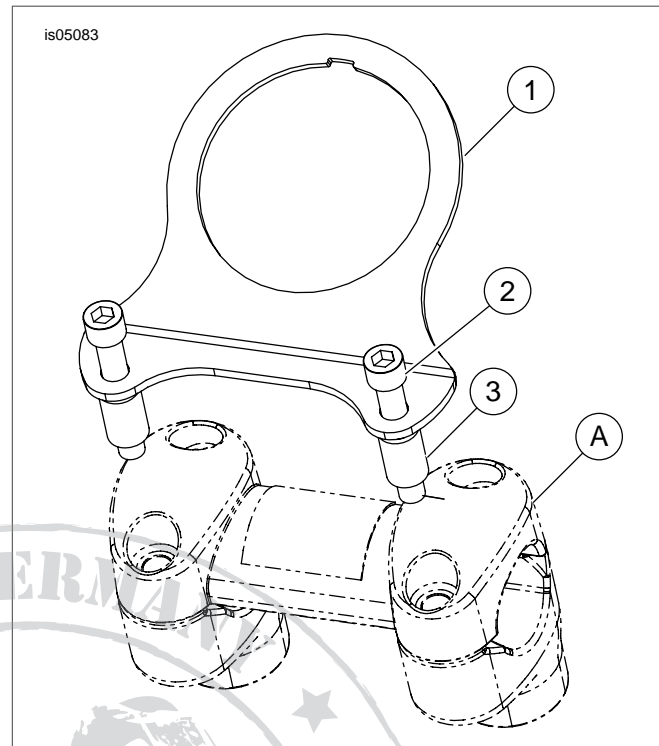

Figure 1. Service Parts: Mini-Tach Bracket Kit
See Figure 1 and Table 2.
1. See Figure 1. Remove two handlebar clamp screws.
2. Put spacers (3) into the empty clamp screw counterbores.
3. Loosely secure mini-tach bracket (1) to handlebar clamp with the cap screws (2).